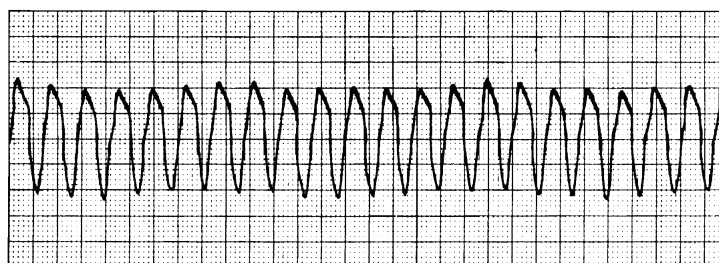

Figure 3-4. Ventricular tachycardia
- (b) Ventricular Tachycardia. V-Tach is a ventricular arrhythmia characterized by broad QRS complexes and a regular rate that falls between 100 to 200 beats per minute. Immediate correction is essential, as V-Tach may lead to V-Fib. Refer to Figure 3-4.